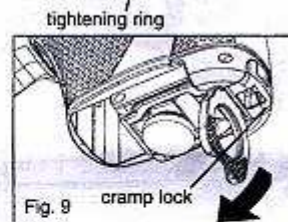

Fig. 9
- push the cramp lock sideways and pull simultaneously the cover to open the cartridge cramp (Fig.9);